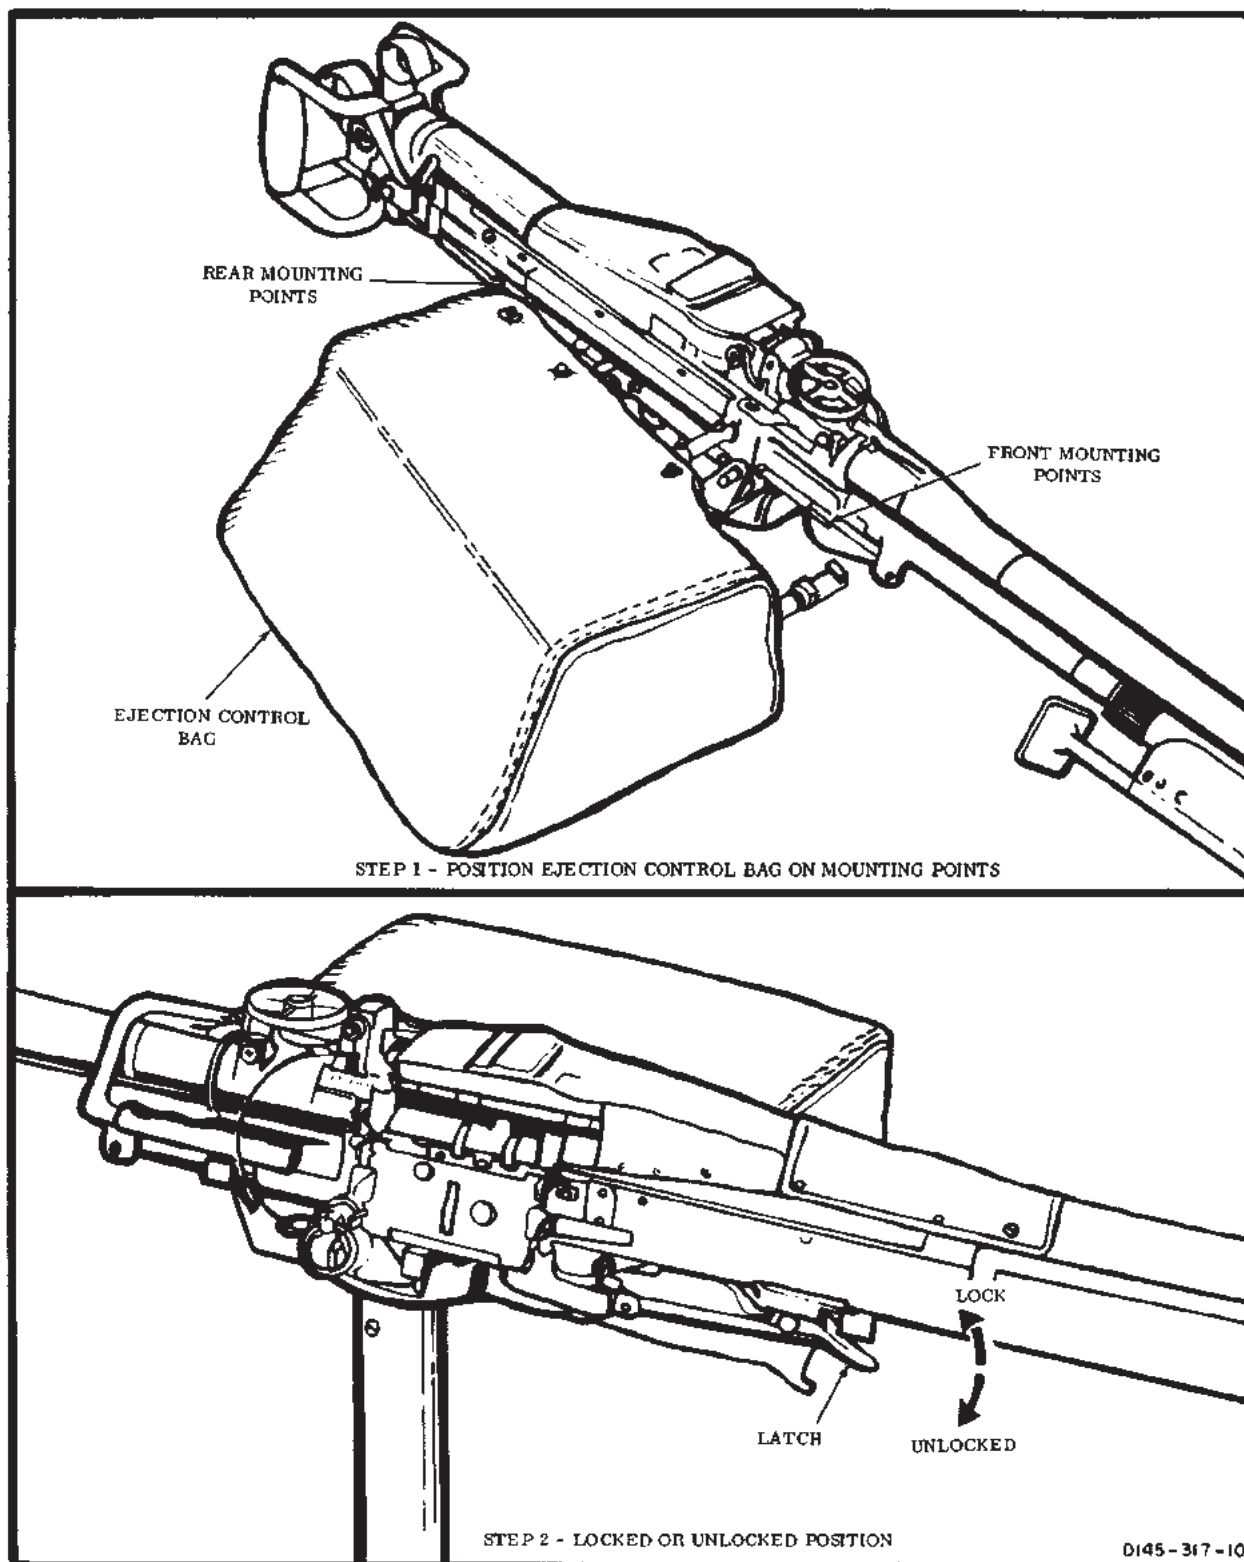

Figure 4-2-7. Ejection control Bag — Installed
- Ejection control bag (fig. 4-2-7) — Installed and securely latched.